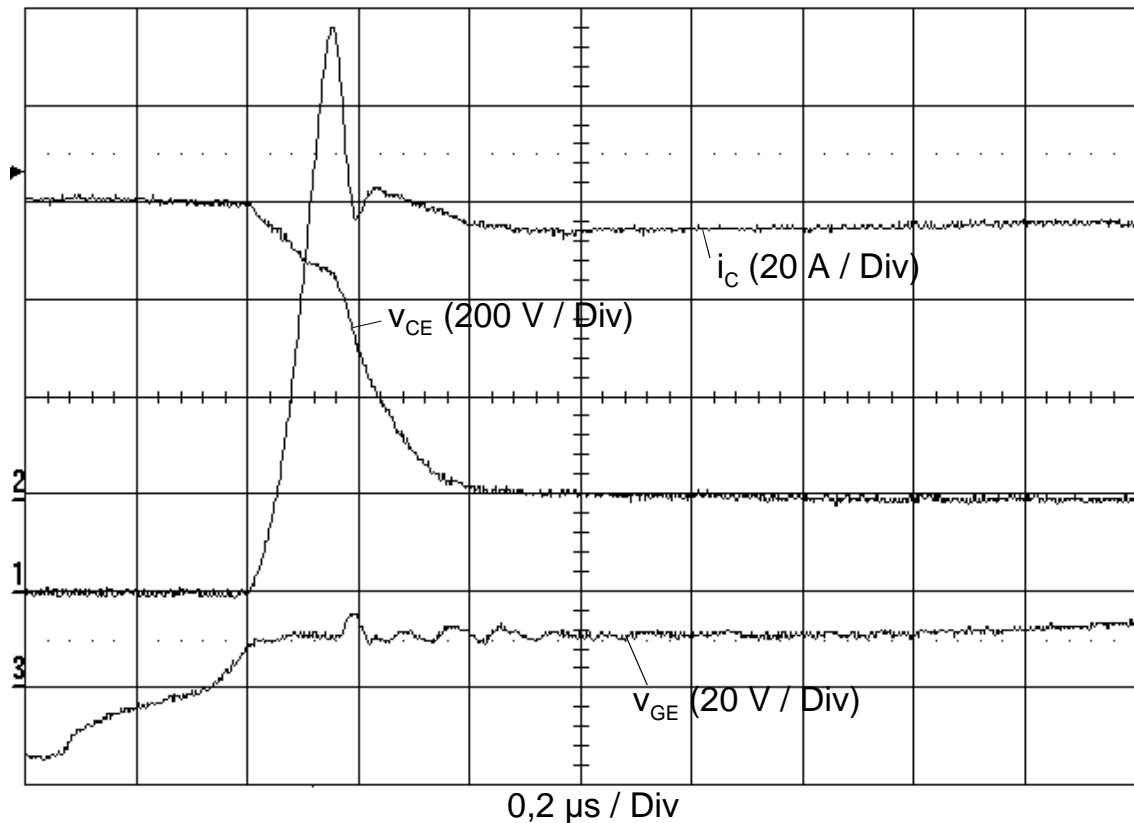

Figure 2.10 Commutation from the conducting free-wheeling diode to the IGBT (turn-on peak current) during turn-on of an IGBT
**Turn-on peak current:** after the total load current  $I_L$  has been commutated to the IGBT, the free-wheeling diode will block, releasing its recovered charge  $Q_{rr}$  at the same time. Therefore, the IGBT collector current  $i_C$  will rise during reverse recovery of the free-wheeling diode ( $t_{rr}$ ) by the value of the peak reverse recovery current  $I_{RRM}$  over  $I_L$  (turn-on peak current see Figure 2.10).